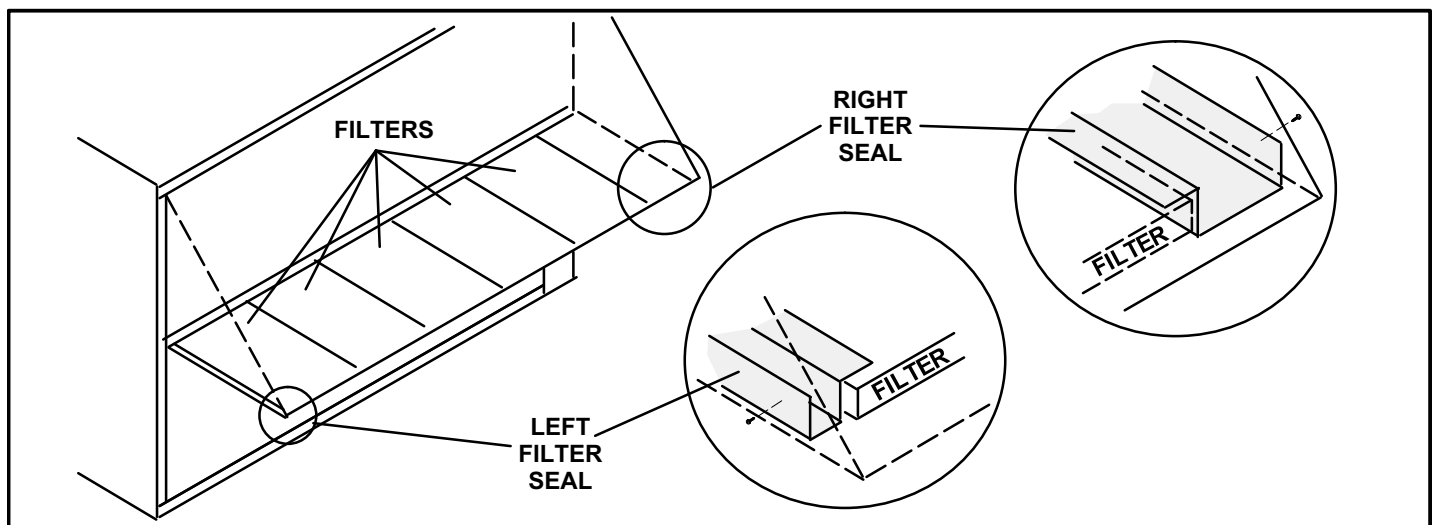

FIGURE 15
- 7- Secure side seals to the hood sides as shown in figure 15.